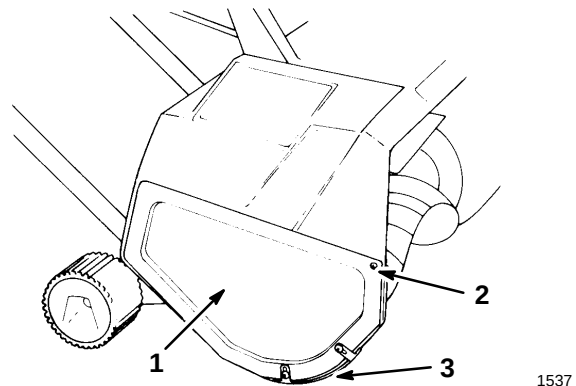

Figure 12
1. Remove (3) screws securing right side cover and skid to snowthrower frame (Fig. 12).